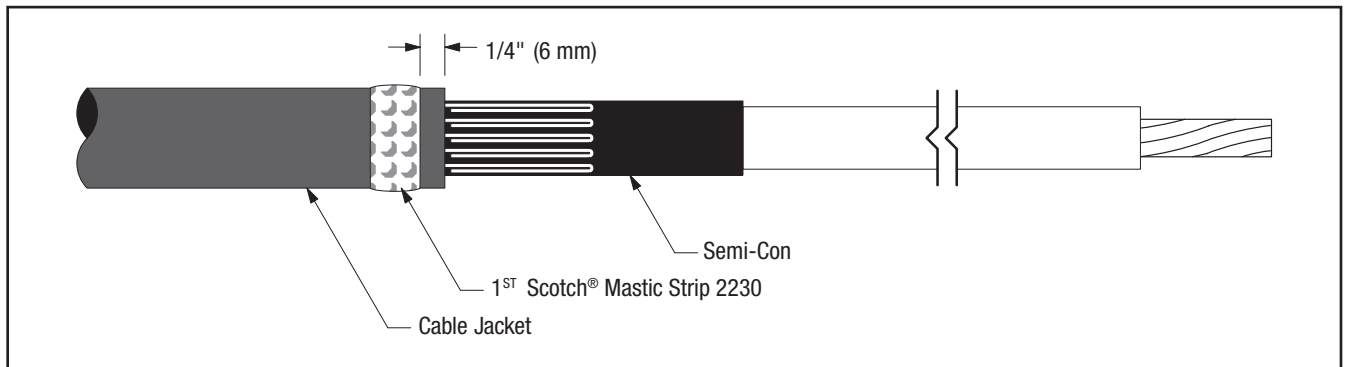

Figure 10
- 8.1 Select a Scotch® Mastic Strip 2230 from kit and remove white release liners. Using light tension, apply a single wrap of mastic around the cable jacket 1/4" (6 mm) from cut edge (Figure 10). Cut off excess.